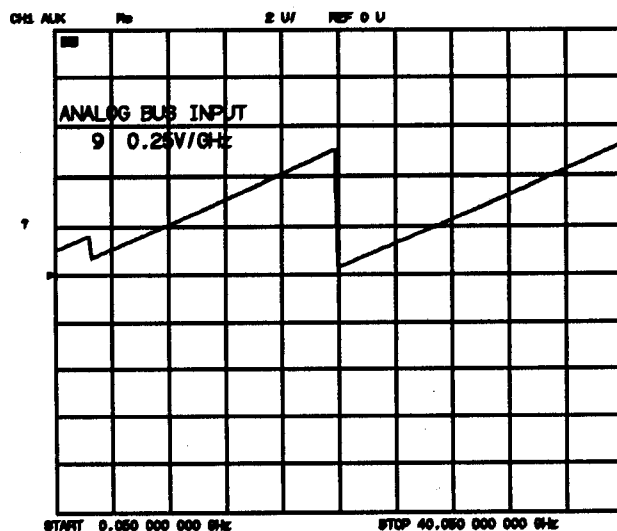

Figure 10–1. 0.25V/GHz Waveform at Abus Node 9
Press **RECALL** **RECALL FAC PRESET** **SYSTEM** **SERVICE MENU** **INPUT PORTS** **ANALOG BUS** **9** **x1** to view the 0.25V/GHz signal to the YIG oscillator drives. Note that for each band, the waveform should start and stop exactly as shown in Figure 10–1, with only one ramp in each band. A problem in one band should not affect the appearance of the waveform in other bands.
- If the voltage waveform resembles Figure 10–2 but the counter values do not match Table 10–1, A14 is almost certainly faulty.
Connect an oscilloscope to A14TP1 (labeled VCO/2). Press **RECALL** **RECALL FAC PRESET** **SYSTEM** **SERVICE MENU** **SERVICE MODES** **FRAC N TUNE ON**. Vary the fractional–N VCO frequency with the RPG knob. If the waveforms do not resemble Figure 10–3 at the frequencies indicated, replace A14. (The amplitude of the waveforms will vary from 3V to 10V p–p.)